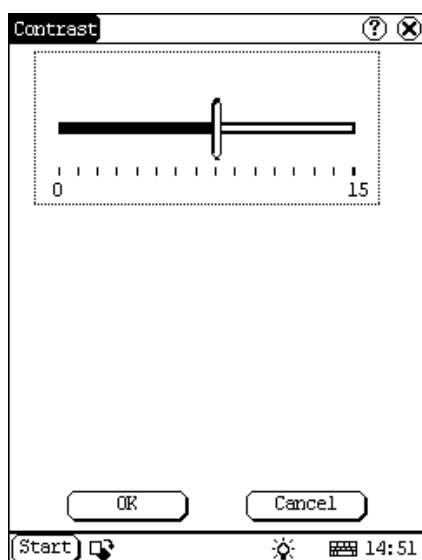

Figure 4-41
- 1) In the Control Panel interface, click 'Contrast' icon to open the Contrast interface. See Figure 4-41.